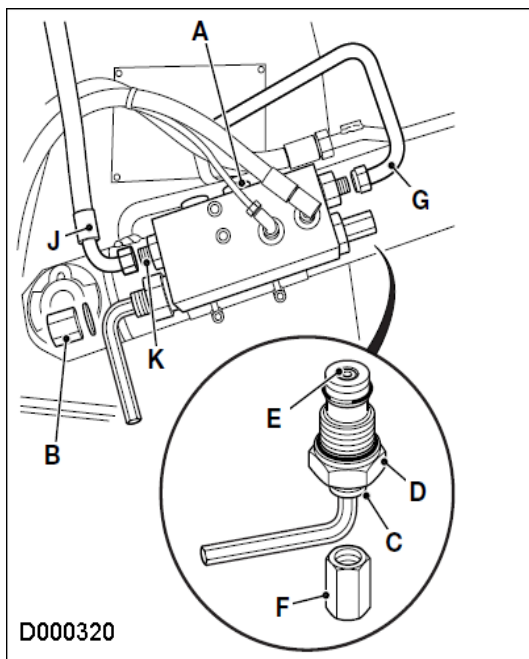

Fig 6.
- 6 Refit the priority valve spring 11 and adaptor 9 and torque tighten → Fig 6. (□ H-7).